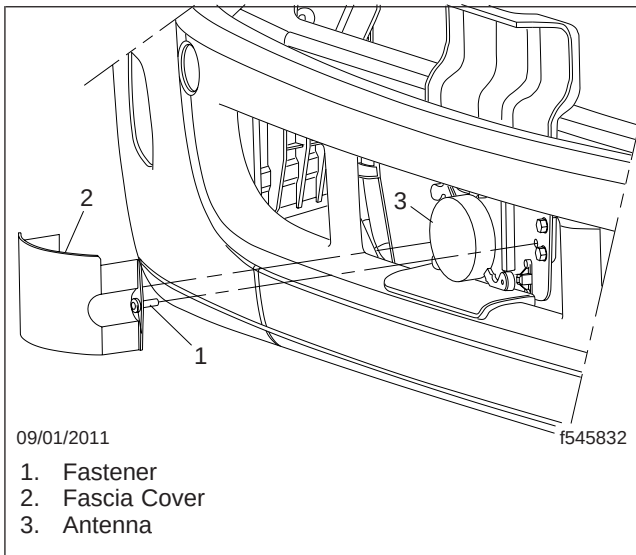

Fig. 3, Radar Antenna Fascia
5. Remove the two fascia mounting bolts and remove the radar antenna fascia. See **Fig. 3**.